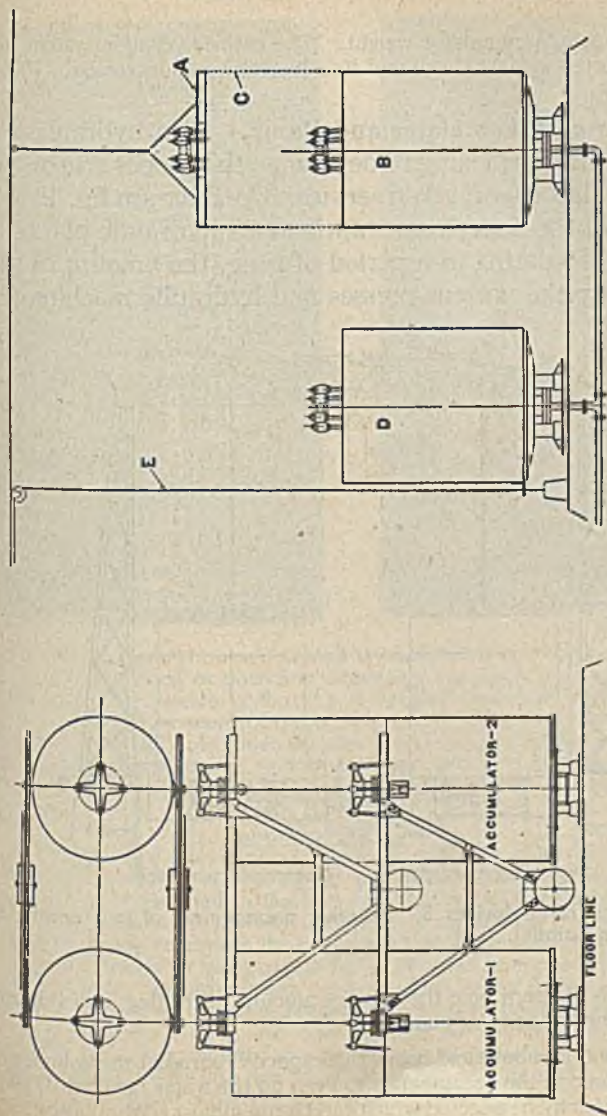

**Fig. 19.**—Load diagram of hydraulic plant.
**Selection of Accumulator and Pump.**—In a hydraulic plant it is sometimes perplexing to determine the proper size of pump and accumulator for a given service. The diagram fig. 19 shows a plotting of the water consumption of a hydraulic plant. This consists of tabulating in a period of time, the amount of water consumed by the various presses and hydraulic machines.